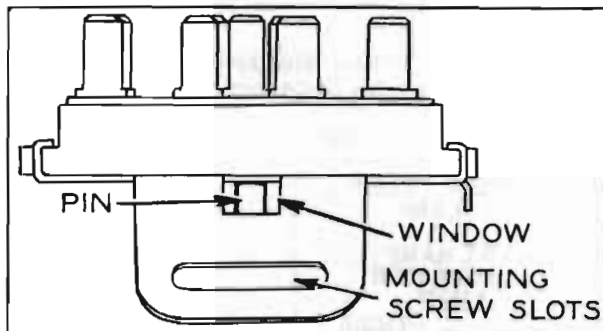

Figure 10-72—Checking Direction Signal Switch Adjustment
2. Loosen two switch mounting screws and move switch up or down steering column jacket until pin projecting from switch is centered in window and switch is in center detent position. See Figure 10-72. Tighten switch mounting screws.